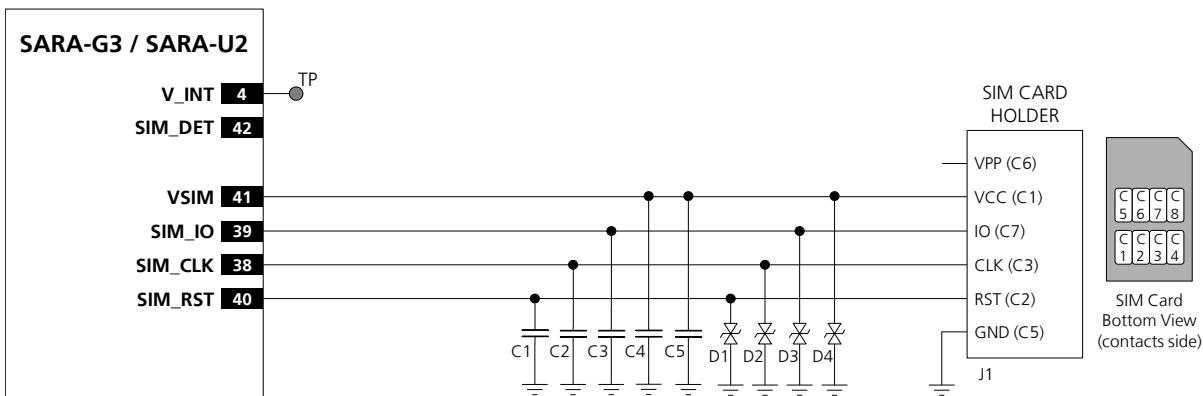
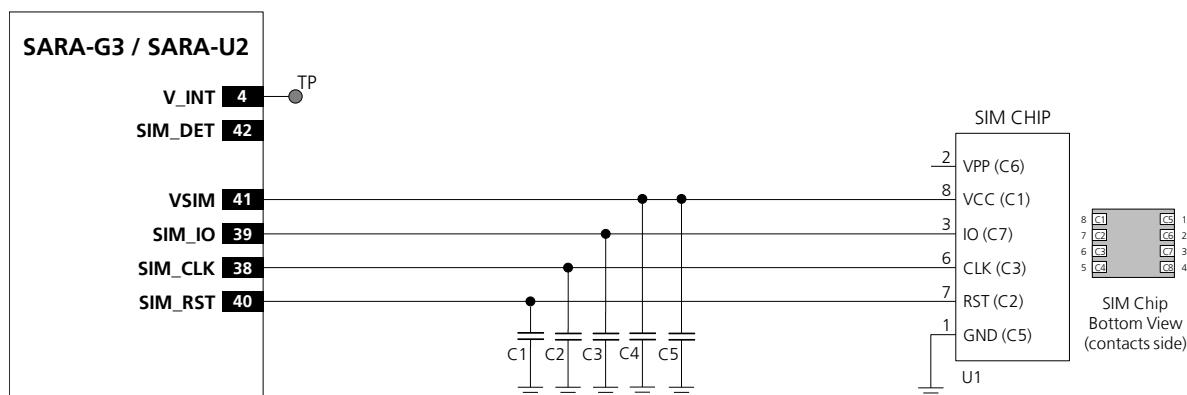
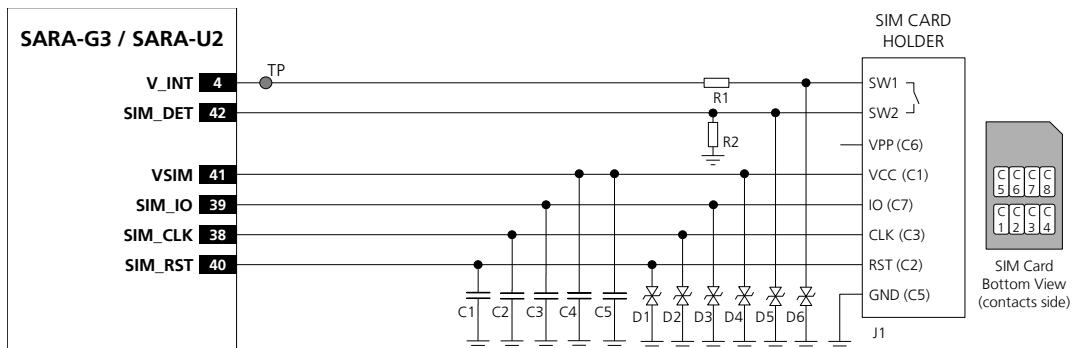
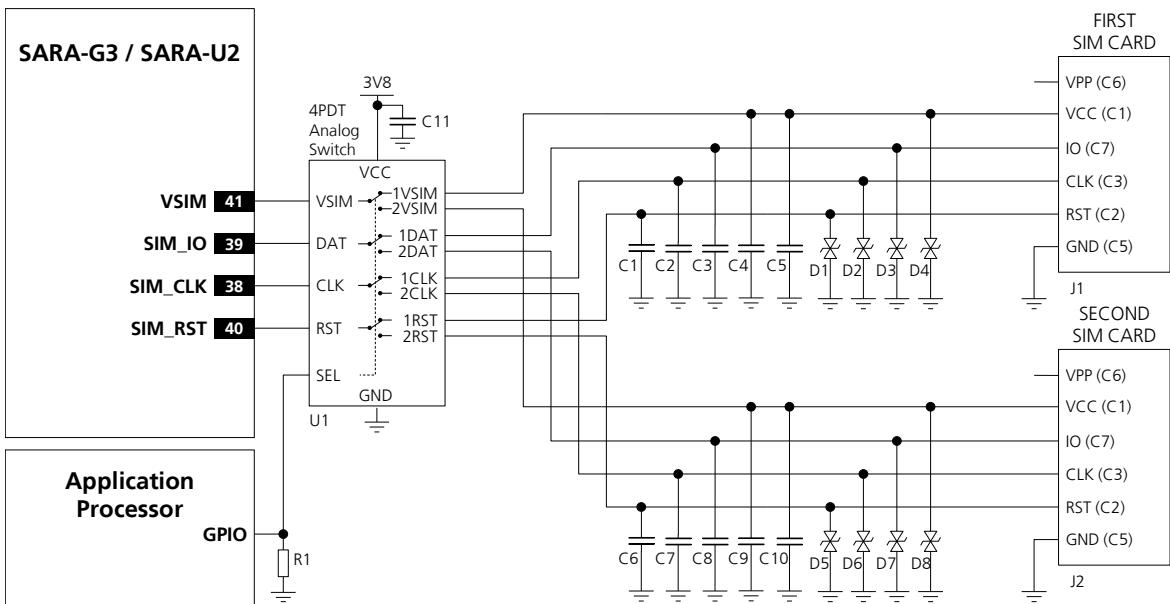

Figure 62: Application circuit for the connection to a single removable SIM card, with SIM detection not implemented
Figure 63: Application circuit for the connection to a single solderable SIM chip, with SIM detection not implemented
Figure 64: Application circuit for the connection to a single removable SIM card, with SIM detection implemented
Figure 65: Application circuit for the connection to two removable SIM cards, with SIM detection not implemented
An application circuit for the connection to a single removable SIM card placed in a SIM card holder is described in Figure 62, where the optional SIM detection feature is not implemented (see the circuit described in Figure 64 if the SIM detection feature is required).
An application circuit for the connection to a single solderable SIM chip (M2M UICC Form Factor) is described in Figure 63, where the optional SIM detection feature is not implemented (see the circuit described in Figure 64 if the SIM detection feature is required).
An application circuit for the connection to a single removable SIM card placed in a SIM card holder is described in Figure 64, where the optional SIM card detection feature is implemented.
- Connect one pin of the normally-open mechanical switch integrated in the SIM connector (as the SW2 pin in Figure 64) to the **SIM\_DET** input pin, providing a weak pull-down resistor (e.g. 470 kΩ, as R2 in Figure 64).
- Connect the other pin of the normally-open mechanical switch integrated in the SIM connector (SW1 pin in Figure 64) to **V\_INT** 1.8 V supply output by means of a strong pull-up resistor (e.g. 1 kΩ, as R1 in Figure 64).
Two SIM card / chip can be connected to the modules' SIM interface as illustrated in the circuit of Figure 65.
SARA-G3 and SARA-U2 modules do not support the usage of two SIMs at the same time, but two SIMs can be populated on the application board providing an appropriate switch to connect only the first SIM or only the second SIM per time to the SIM interface of the SARA-G3 and SARA-U2 modules as described in Figure 65.
In the application circuit example represented in Figure 65, the application processor will drive the SIM switch using its own GPIO to properly select the SIM that is used by the module. Another GPIO may be used to handle the SIM hot insertion / removal function of SARA-U2 modules, which can also be handled by other external circuits or by the cellular module GPIO according to the application requirements.
The dual SIM connection circuit described in Figure 65 can be implemented for SIM chips as well, providing a suitable connection between the SIM switch and SIM chip as described in Figure 63.
If it is required to switch between more than two SIMs, a circuit similar to the one described in Figure 65 can be implemented: for example, in the event of a four-SIM circuit, using an appropriate 4-pole 4-throw switch (or, alternatively, four 1-pole 4-throw switches) instead of the suggested 4-pole 2-throw switch.
In the second case, the same harmonics can be picked up and create self-interference that can reduce the sensitivity of GSM / UMTS receiver channels whose carrier frequency is coincidental with the harmonic frequencies: placing the RF bypass capacitors suggested in Figure 64 near the SIM connector will mitigate the problem.
In addition, since the SIM card is typically accessed by the end user, it may be subjected to ESD discharges: add adequate ESD protection as suggested in Figure 64 to protect the module SIM pins that are close to the SIM connector.